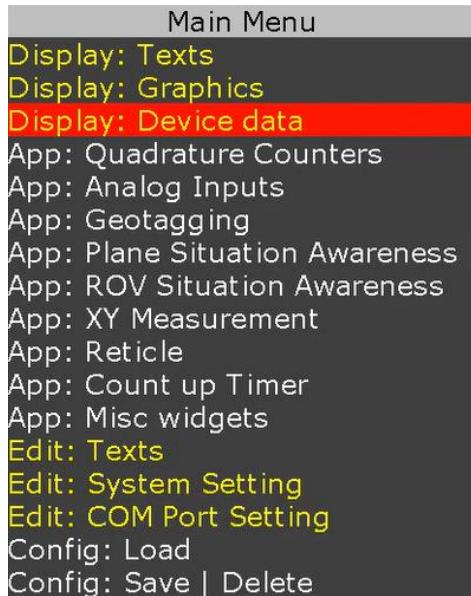
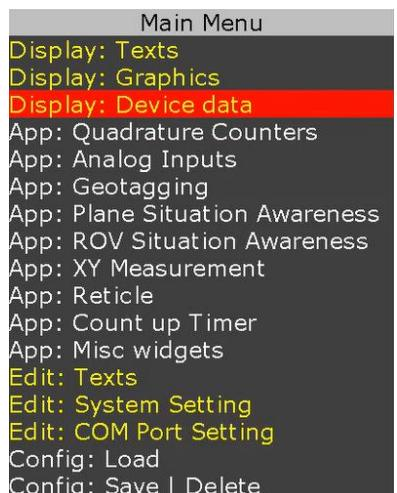

Figure 12
Figure 15
To customize the sample file to meet your needs, follow Figure 12 - Figure 14.
- For above messages, just configure COM port and PROTEUS is ready to receive messages & manage your visual data. Follow Figure 15-Figure 17 and Figure 12 - Figure 14 to display NMEA parameters.